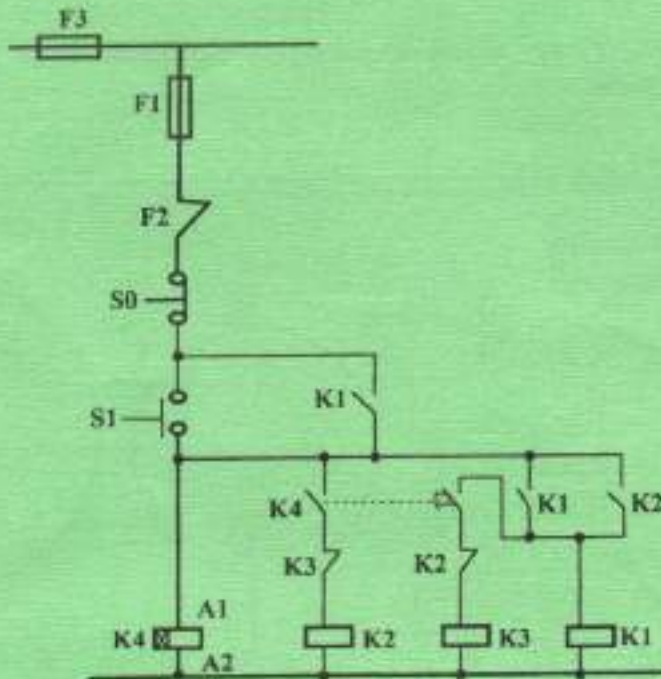

Fig. 4
- (b) Figure 4 shows control circuit of star-delta starter for a three phase induction motor. Draw the equivalent ladder logic diagram. (10 marks)